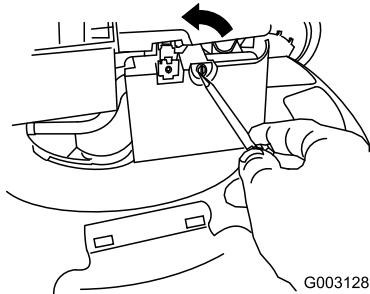

Figure 35
2. Use a screw driver to open the air filter cover (Figure 35).